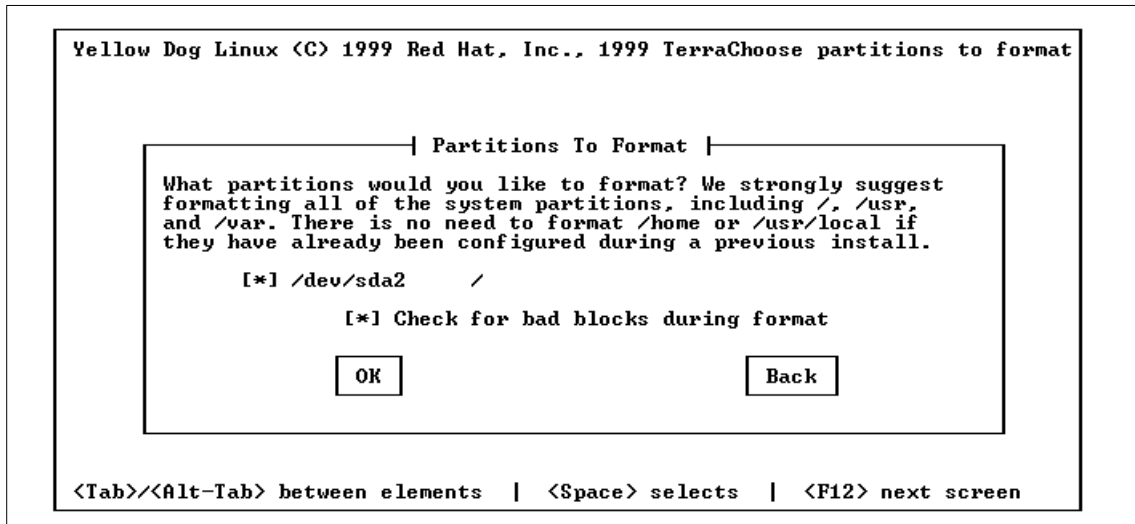

Figure 36. Formatting Partitions
16. Next, select the format option to check the disk parameter and partition formatting (see Figure 36).